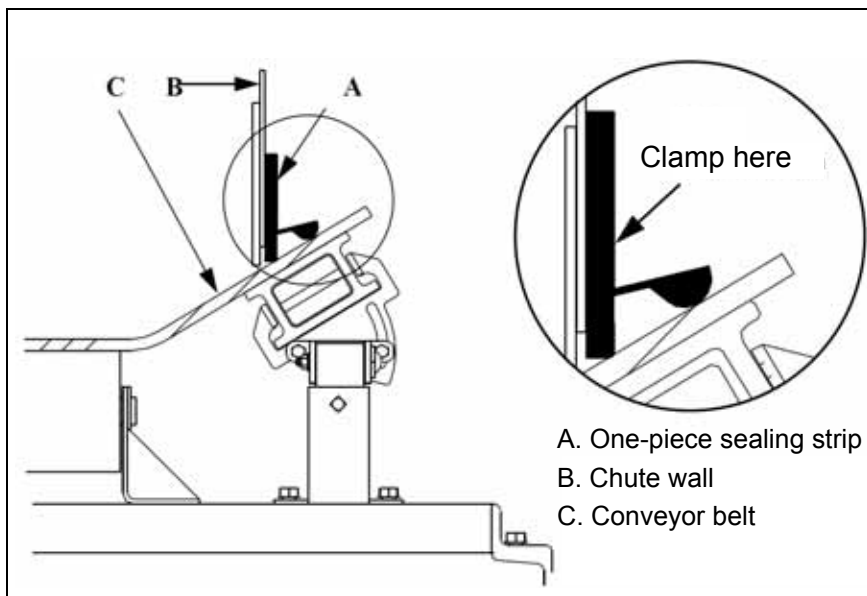

Fig. 5: Installing the one-piece sealing strip made of rubber
1. Place the secondary sealing strip made of rubber or the one-piece sealing strip made of rubber (A, Fig. 5) on the chute wall (B, Fig. 5).
2. Adjust the sealing strip in such a manner that it lies on the conveyor belt (C, Fig. 5) but it does not press against the conveyor belt. If the secondary sealing strip projects over the conveyor belt, cut this off with the help of a knife so that it is flush with the conveyor belt. Take care to see that at least two ribs of the secondary sealing strip are present and that they lie on the conveyor belt. This is not possible with the one-piece sealing strip.